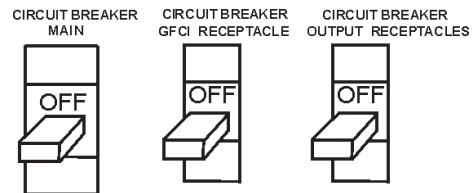

Figure 53. Main, GFCI and Load circuit breakers
1. Switch both the MAIN, GFCI and LOAD circuit breakers (Figure 53) to the "OFF" position.